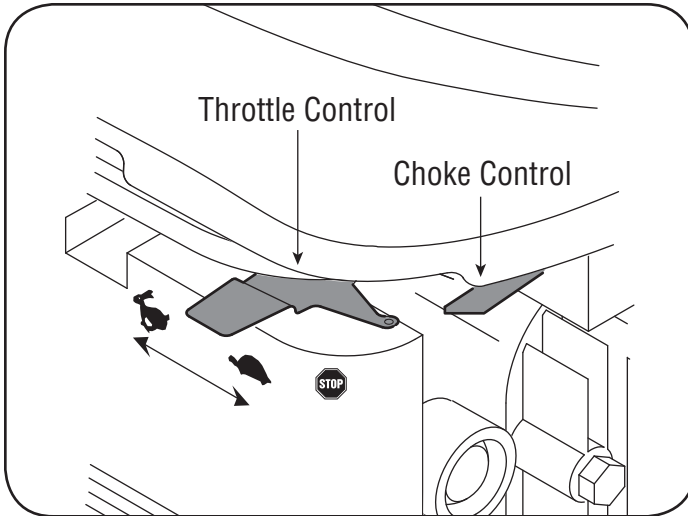

Figure 10
5. Move throttle control to START/RUN (Rabbit) position. See Figure 10.
6. Move the choke control toward the throttle control to choke the engine's carburetor. (A warm engine may not require choking.) See Figure 10.